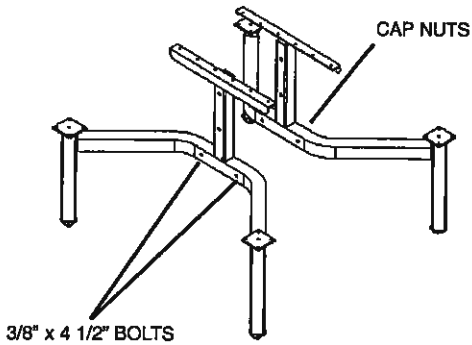

fig. 1
1. Align lower holes in the frame assemblies and insert (2) 3/8" x 4 1/2" bolts. (fig.1)